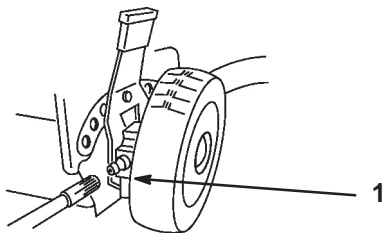

Figure 24
1. Wipe the grease fittings on the rear wheel height adjustment levers with a clean rag (Fig. 24).